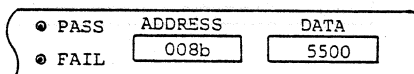

Fig. 7
- (11) Key in data x'00'. The panel display gives the indication shown in Figure 7.